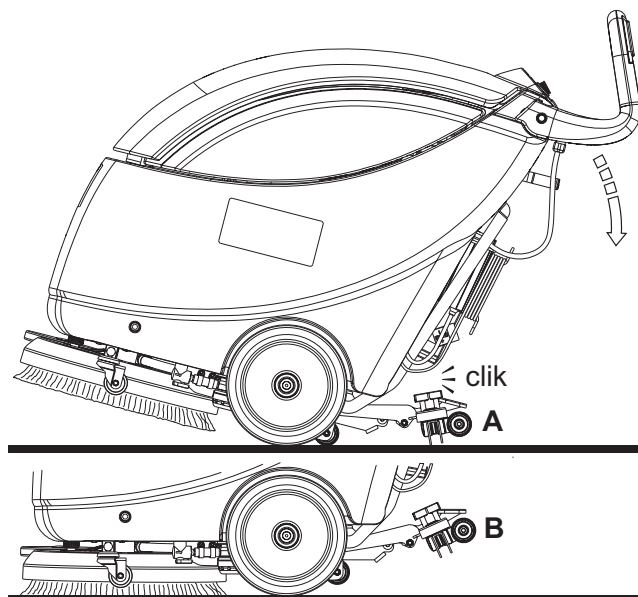

Figure 3
9. To start scrubbing/drying, keep the hands on the handlebar (2) and start the machine by pressing the brush enabling push-buttons (51).
10. Release the brush enabling push-buttons (51).
11. Turn the switch (53) to "0", to turn off the vacuum system motor.
12. Turn the switch (52) to "0", to turn off the brush motor.
13. To turn off the machine, turn the main switch (26) to "0".
14. Disconnect the power supply cable plug (21) from the electrical mains and place it on the holder.
15. Engage the positioning pin (24) and activate the machine transport/parking device (23a) to keep the brush/pad-holder lifted (see Fig. 3).
1. Grasp the handlebar (2), lower it until the rear wheel (7) touches the floor (A, Fig. 3) then engage the squeegee in lifted position (B).